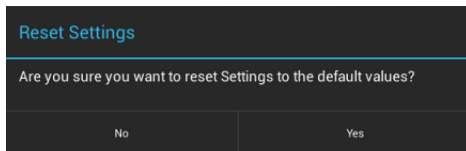

FIG. 88 Reset Settings prompt window
2. The panel will prompt you to verify this action (FIG. 88):.